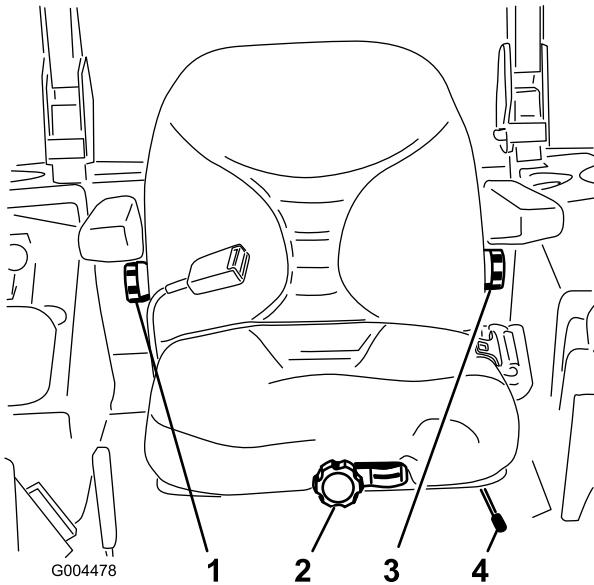

Figure 34
1. To adjust, move the lever sideways to unlock the seat (Figure 34).
Without sitting on the seat, turn the knob in front either direction to provide the best comfort (Figure 34).
To adjust it, turn the knob, under the right-side arm rest, in either direction to provide the best comfort (Figure 34).
To adjust it, turn the knob, under the left-side arm rest, in either direction to provide the best comfort (Figure 34).